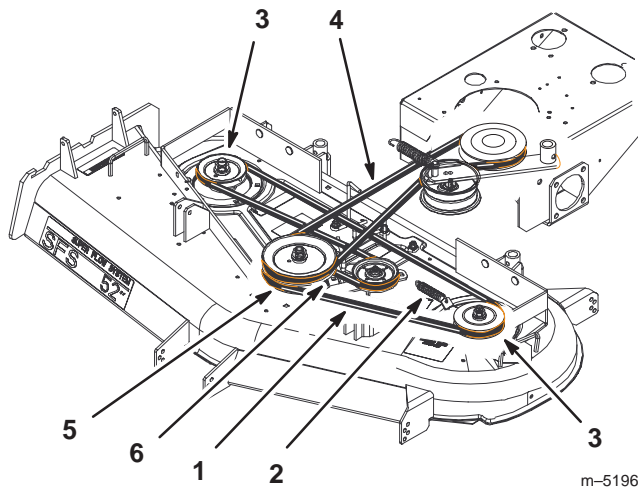

Figure 62
5. Disconnect the idler arm spring to relieve tension on the idler arm and idler pulley, then remove the worn deck belt (Fig. 62).
6. Install the new deck belt around the two outside spindle pulleys, the idler pulley, and in the lower groove of the center spindle pulley (Fig. 62).
7. Connect the idler arm spring (Fig. 62).
11. Adjust deck belt guide an 1/8 in. from belt (Fig. 62).